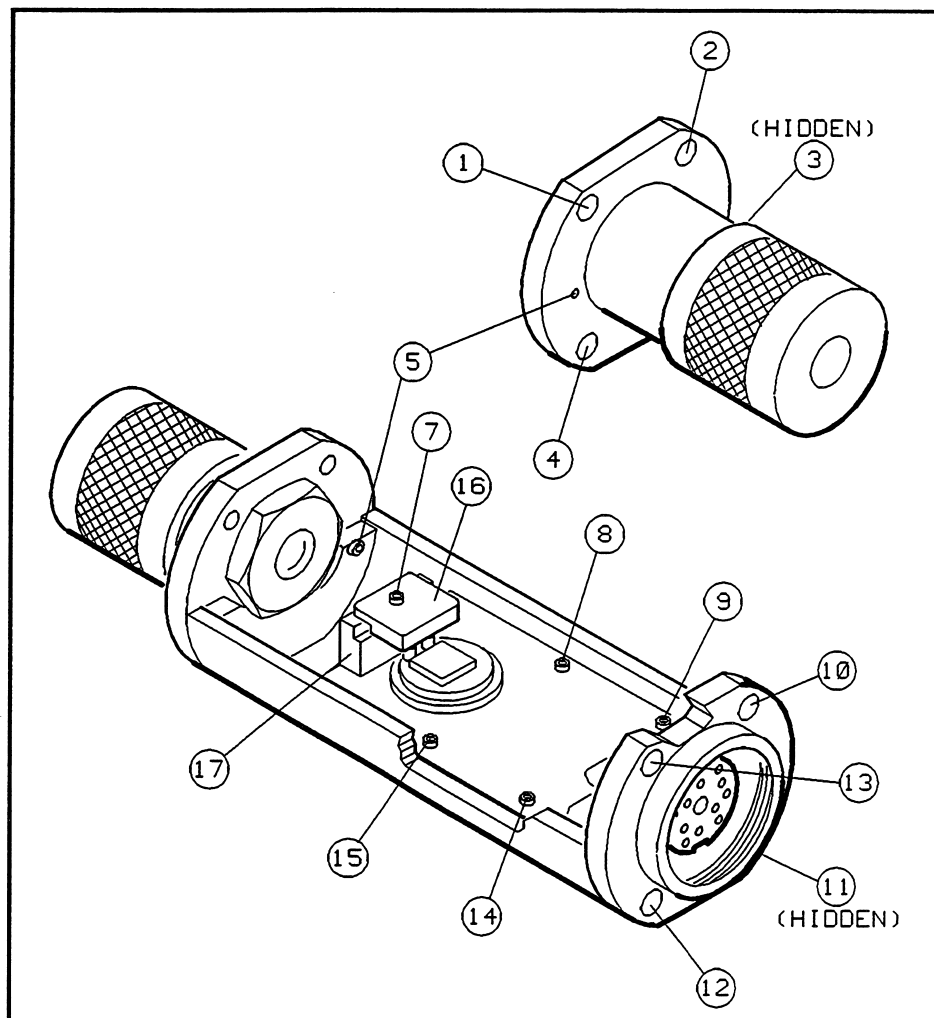

Figure 10. Power Sensor Hardware Locations
1. Set the printed circuit board and connector into place as shown in figure 10, bottom view.